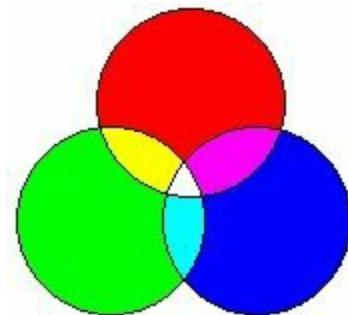

Figure 12-6: Making New Lights by Mixing the 3 Lights
We can get other colors by mixing the three basic colors of Red, Green, and Blue. The intensity (proportion) of the colors mixed can also effect the color we get. In many high-end graphics systems, an 8 bit value is used to represent the intensity. Its value can be between 0 to 255 (0 to 0xFF) representing high intensity (255) and zero intensity. See Table 12-2. Using three basic colors and intensity, we can make any color we want. See Figure 12-6.